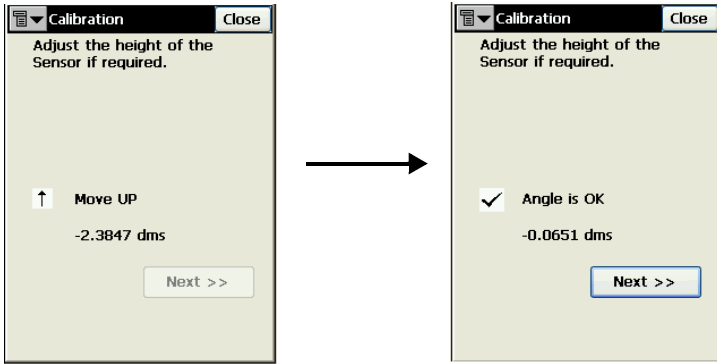

Figure A-14. Check Angle of Sensor
6. Adjust the height of the sensor so the angle is less than 1° . Once the angle is ok, tap **Next** (Figure A-14).